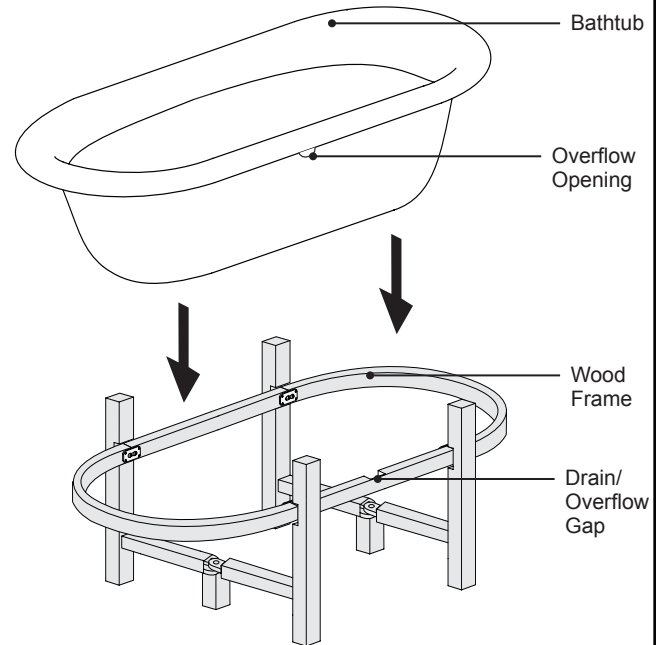

Figure 17. Bathtub Placement
- When placing the bathtub inside the wood frame, make sure that the overflow opening is on the same side as the drain/overflow gap that is located on the wood frame (Figure 17). This gap will allow you to attach the drain/overflow assembly.